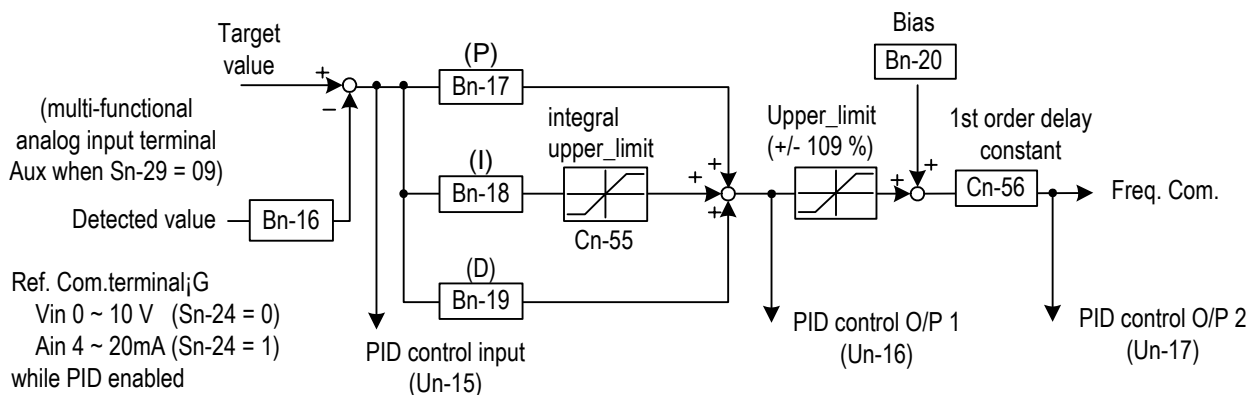

Fig. 12. Block diagram for PID control in inverter
(14) Multi-function Analog Output AO1 Gain (Bn-14)
(15) Multi-function Analog Output AO1 Gain (Bn-15)
(16) PID Detection Gain (Bn-16)
(17) PID Proportional Gain (Bn-17)
(18) PID Integral Time (Bn-18)
(19) PID Differential Time (Bn-19)
(20) PID Bias (Bn-20)
- The PID control function is a control system that matches a feedback value (i.e., a detected value) to the set target value. Combining the proportional (P), integral (I) and derivative (D) control make the control possible to achieve required response with the constant setting and tuning procedure of proportional gain Bn-17, integral time Bn-18 and derivative time Bn-19.
- Fig. 12 is a Block diagram of the inverter’s internal PID control.